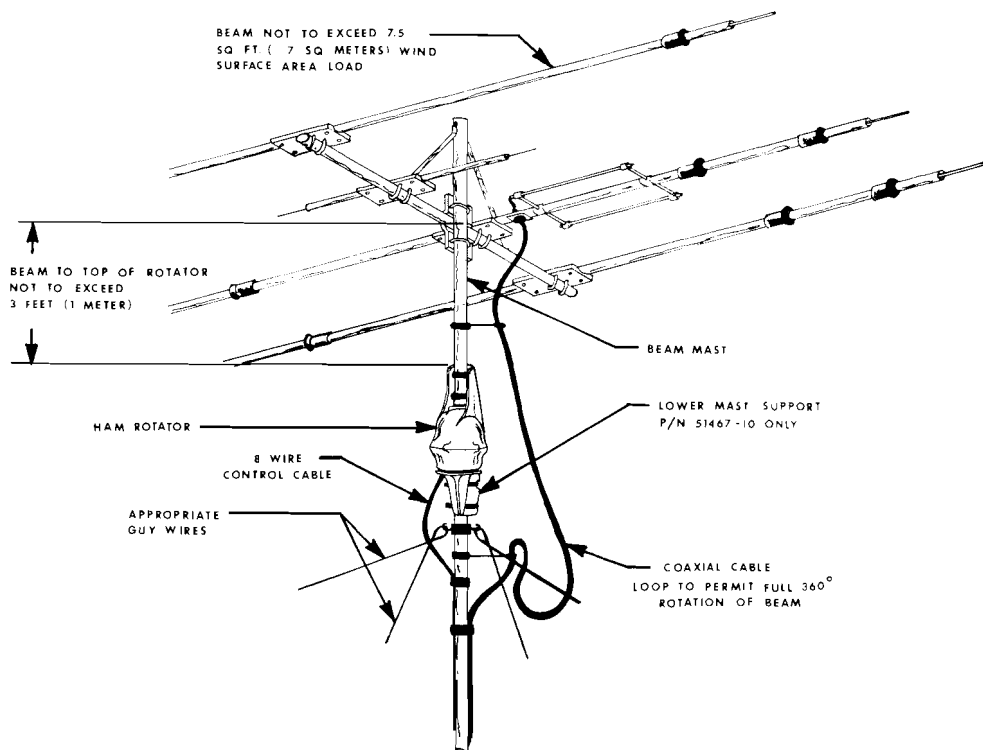

FIG. 3
3. A telescoping or other-type mast as shown. (see figure 3) can also be used. This installation is similar to #2 above and requires the optional Heavy Duty Lower Mast Support Kit and must be derated to 7.5 square feet.